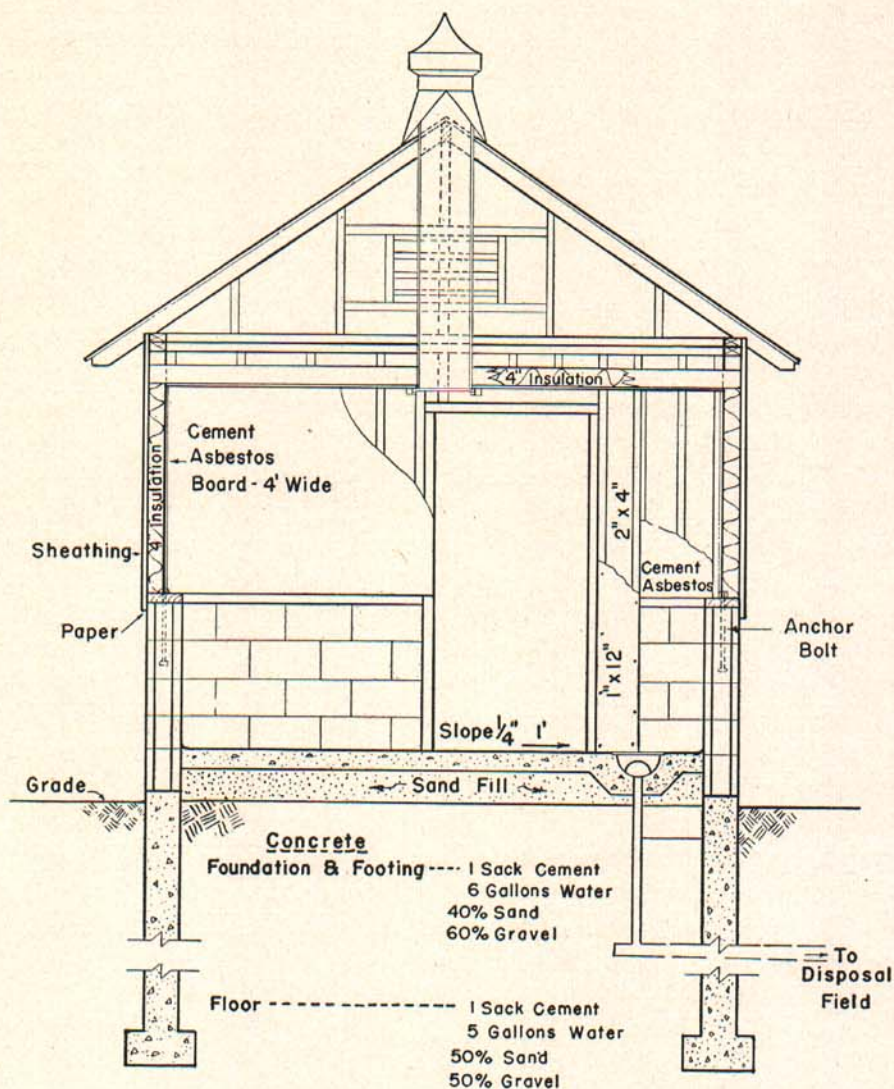

Fig. 5. Cross section of a typical frame milkhouse.
The type of construction used will depend on the availability of materials. In some areas native material is available, thus making frame construction desirable. Figure 5 shows a complete cross section of a typical frame milkhouse.
4. A vent duct with damper shall start at the ceiling line and connect to a roof ventilator. A 10 x 10 inch square duct, or a 11-inch circular duct is sufficient. (Fig. 5)